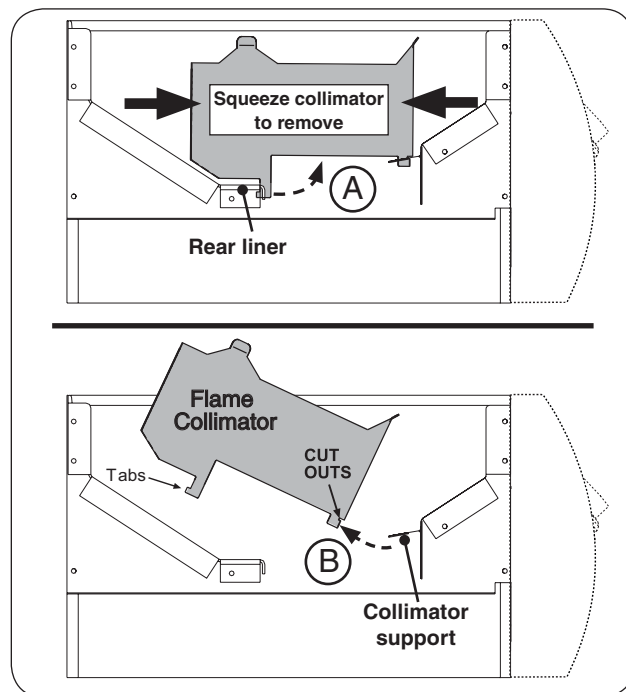

Fig. 48-2 Flame collimator removal
2. Squeeze the collimator to detach the rear tab from the rear liner as shown in Fig. 48-2, A, and lift up the rear portion of the collimator.
3. Detach the collimator from the front collimator support and completely remove the collimator as shown in Fig. 48-2, B.